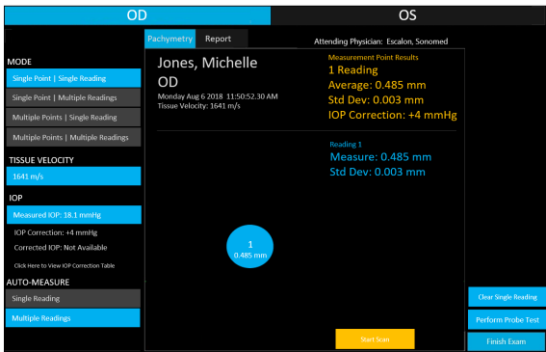

Fig. 13
- ① Select desired exam mode option: (Fig 13 and 14)
- ② Confirm Tissue Velocity is appropriate; tap to change as desired.
- ③ Enter measured IOP if corrected IOP based on corneal thickness is desired.
- ④ Select whether a single or multiple points should be automatically taken once system scan criteria are met.
- ⑤ Select “SCAN” button to start scan (or press foot pedal).
- ⑥ Repeat, as necessary, to measure all desired points. Readings can be cleared and repeated, if necessary.